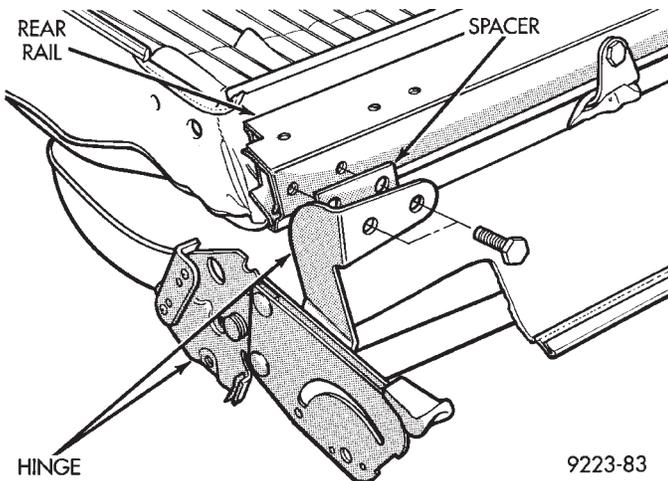

Fig. 42 Seat Back Hinge
- (5) Remove bolts holding seat back hinge and spacer to rear rail (Fig. 42).
- (6) Remove nuts holding seat back hinge to back frame.
- (7) Remove bolts holding seat back hinge to cushion frame.
- (8) Separate seat back hinge from seat.